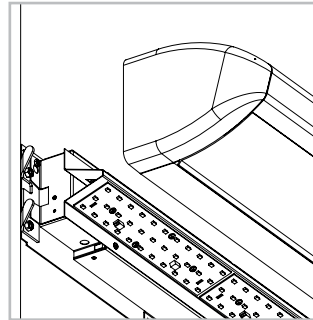

Figure 5: Alignment of the Shroud to the Back Plate
1. Align the Shroud in front of the Wire Way/Back Plate assembly as shown in **Figure 5**.